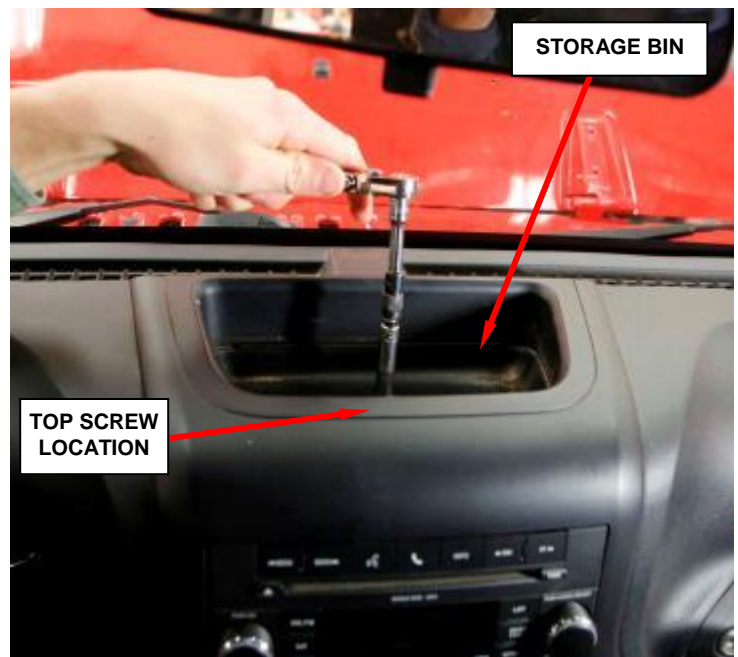

Figure 107 – Center Bezel Screws
17. Remove the screw from the power window switch opening (Figure 107).
18. Remove the storage bin mat and remove the top screw (Figure 107).